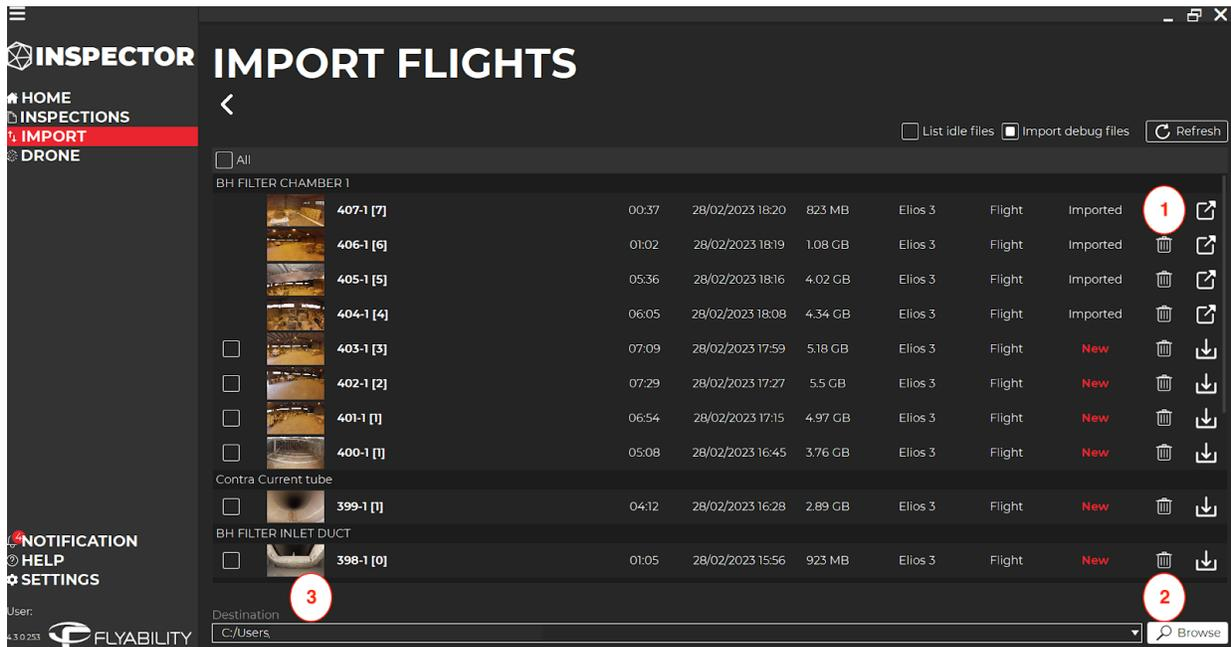

Figure 5.3: Inspector 4 Import Screen after connection - Elios 3
This will create for each flight selected a flight project folder in the specified destination, as shown in figure 5.3 as (1), containing the following data:
Delete the selected flights from the drone's SD card, by clicking on the delete button, as shown in figure 5.3 as (2). Copies previously imported onto your PC will not be affected. CAUTION: Data cannot be recovered once deleted.
This is the location on your computer to where the flight data of imported flights will be saved, as shown in figure 5.3 as (3). The default destination is <documents/Inspector>.